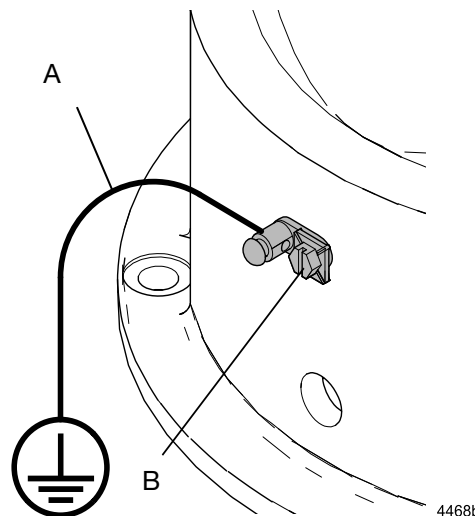

FIG. 2
Remove the ground screw (B) and insert through the eye of the ring terminal at the end of the ground wire (A). Fasten the ground screw onto the pump and tighten securely. See Fig. 2. Connect the other end of the wire to a true earth ground. To order a ground wire and clamp, order part number 222011.
Remove the ground screw (B) and insert through the eye of the ring terminal at the end of the ground wire (A). Fasten the ground screw onto the pump and tighten securely. See Fig. 2. Connect the other end of the wire to a true earth ground. To order a ground wire and clamp, order part number 26B091.